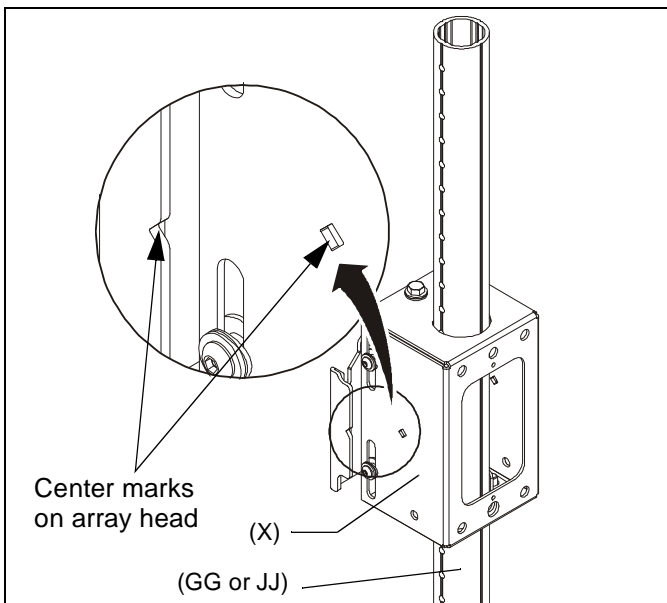

Figure 6
5. Slide an array head (X) onto column up to the highest mark on the column.
**IMPORTANT ! :** Match the center marks on the array head with the mark on the column. (See Figure 6)